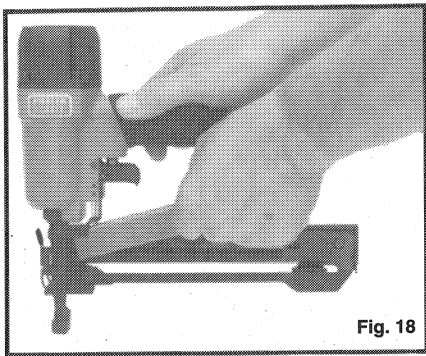

Fig. 18
3. Drop a strip of staples onto the guide rail (see Fig. 18).